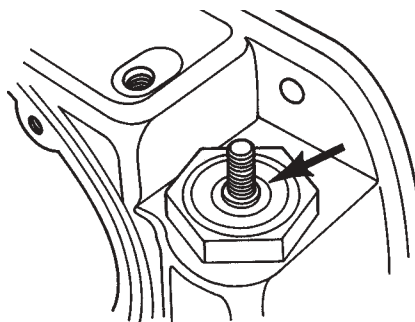

Figure 3.3.7A
3. Inspect the condenser P-lead stud for twisting or "pulled" condition. Using a magnifying lens, examine the glass bead end seals of the capacitor for broken glass or for glass separation from the retaining steel rings. Either of these conditions is cause for component rejection. (See Figure 3.3.7A.)